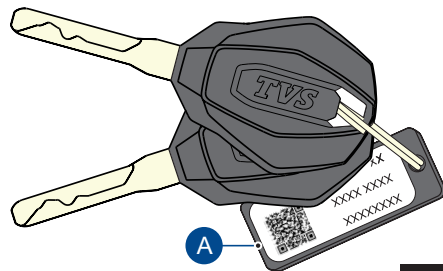

Fig. 08
A sticker ID (A) attached with keys has the identification number of keys. Please note down the identification number below for future reference. (ref. Fig. 08).